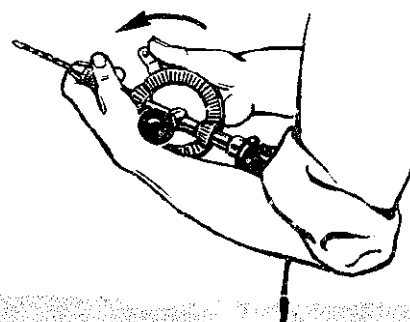

Fig. 10-51 Removing a bit.
2. To remove the bit, hold the chuck shell with the left hand and turn the crank backward with the right hand as shown by the arrow in figure 10-51.